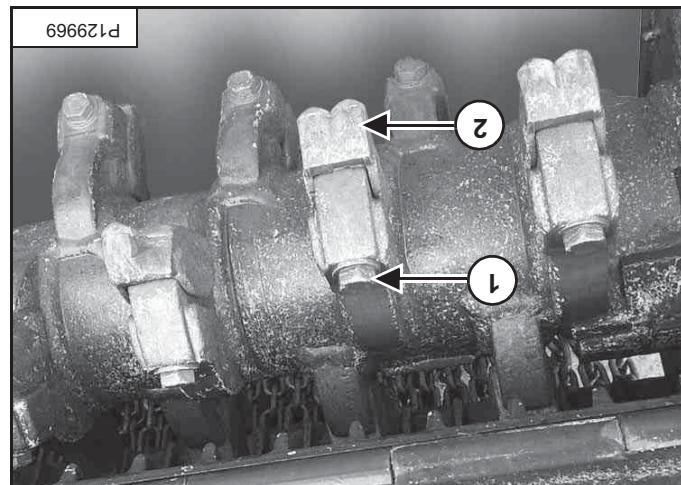

Figure 117
Remove bolt (item 1) and remove the carbide tooth (item 2) [Figure 117].